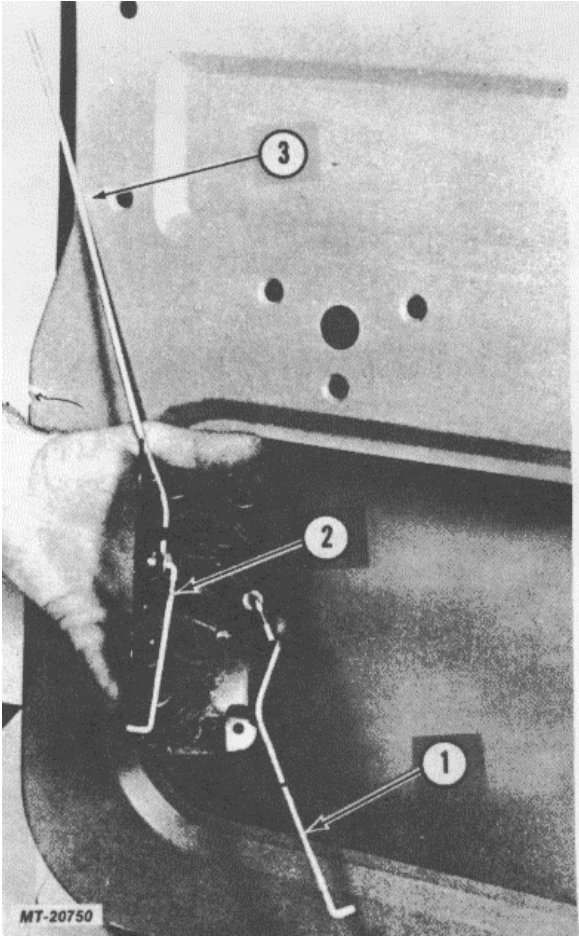

Fig. 22. Removing Latch Assembly
5. Remove five socket head screws and detach door latch assembly from inside of door frame (Fig. 22). Latch jaws should be closed.